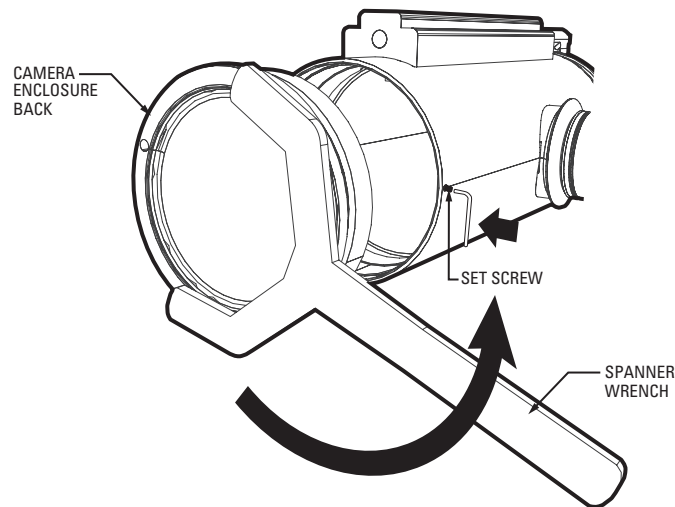

Figure 6. Remove Back Cap of Camera Enclosure
1. Remove the back cap of the camera enclosure. Refer to Figure 6 and do the following: